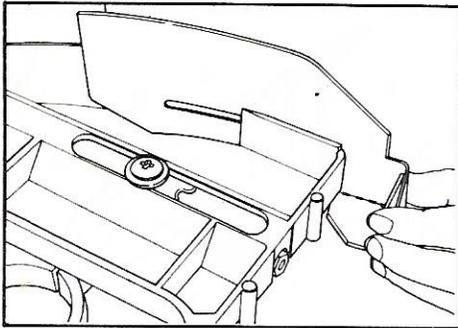

Figure 4. Sliding the deflector into the front side of the inner guard.
c. Slide the folded deflector (3) into the front side of the inner guard (C). (See Figure 4.)